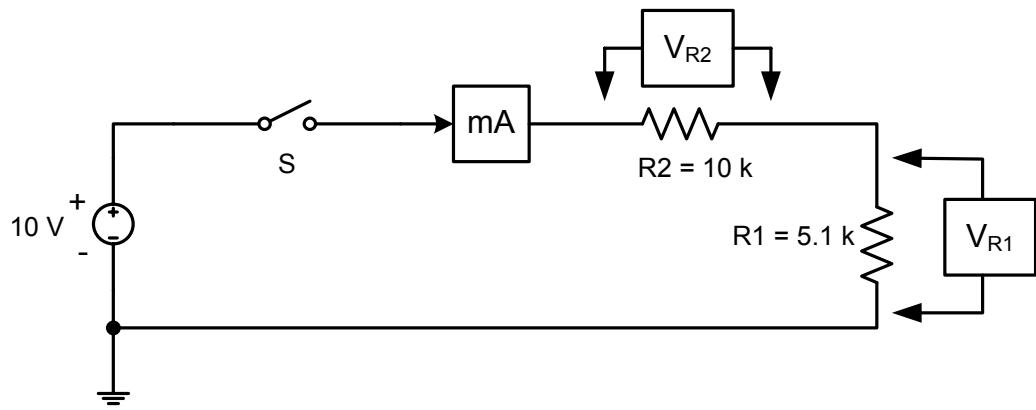

Figure 3.1
- ii) Consider the circuit shown in Figure 3.1. Calculate the current  $I$ , and the voltages  $V_{R1}$  and  $V_{R2}$ , assuming that input resistance of the ammeter is zero and that of the voltmeter is infinity. Enter your results into Table 3.2, in your lab book.
**Step 3:** Connect the circuit shown in Figure 3.1 on the protoboard using the prepared diagram from your preparation. ***Do not connect the voltmeter to the circuit yet.***
**Step 9:** Re-compute the values of  $I$ ,  $V_{R1}$  and  $V_{R2}$  in the circuit of Figure 3.1 using the measured values of  $R_1$  and  $R_2$ . Comment on the results.